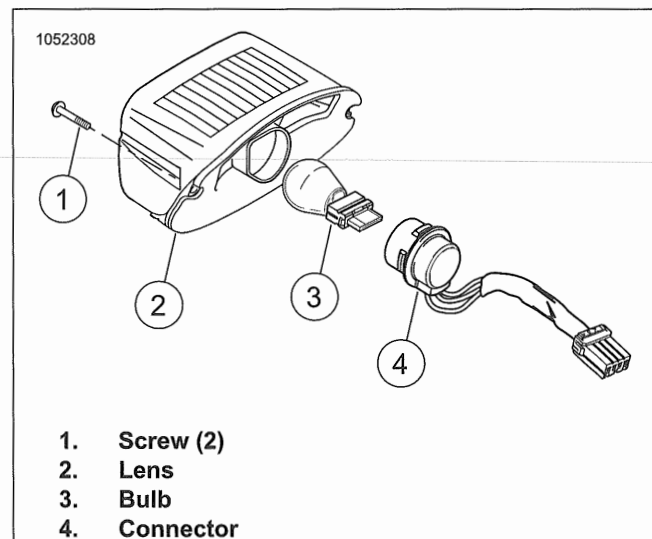

Figure 7-84. Standard Tail Lamp
- See Figure 7-84. Remove bulb.
- Remove screws (1).
- Remove lens (2).
- Remove connector (4).
- Remove bulb (3).
- Install bulb (3).
- Install connector (4).
- Install lens (2).
- Install screws (1). Tighten.